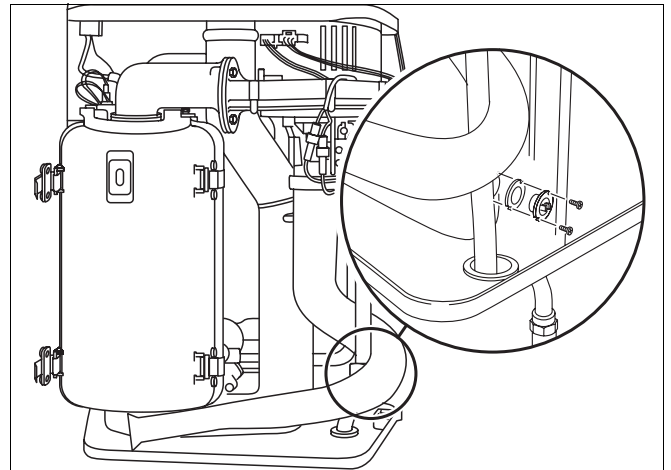

Fig. 48 Buderus 600 - 11R / 19R / 24R :
- Remove the flue gas thermostat and replace with a new unit (fig. 48).